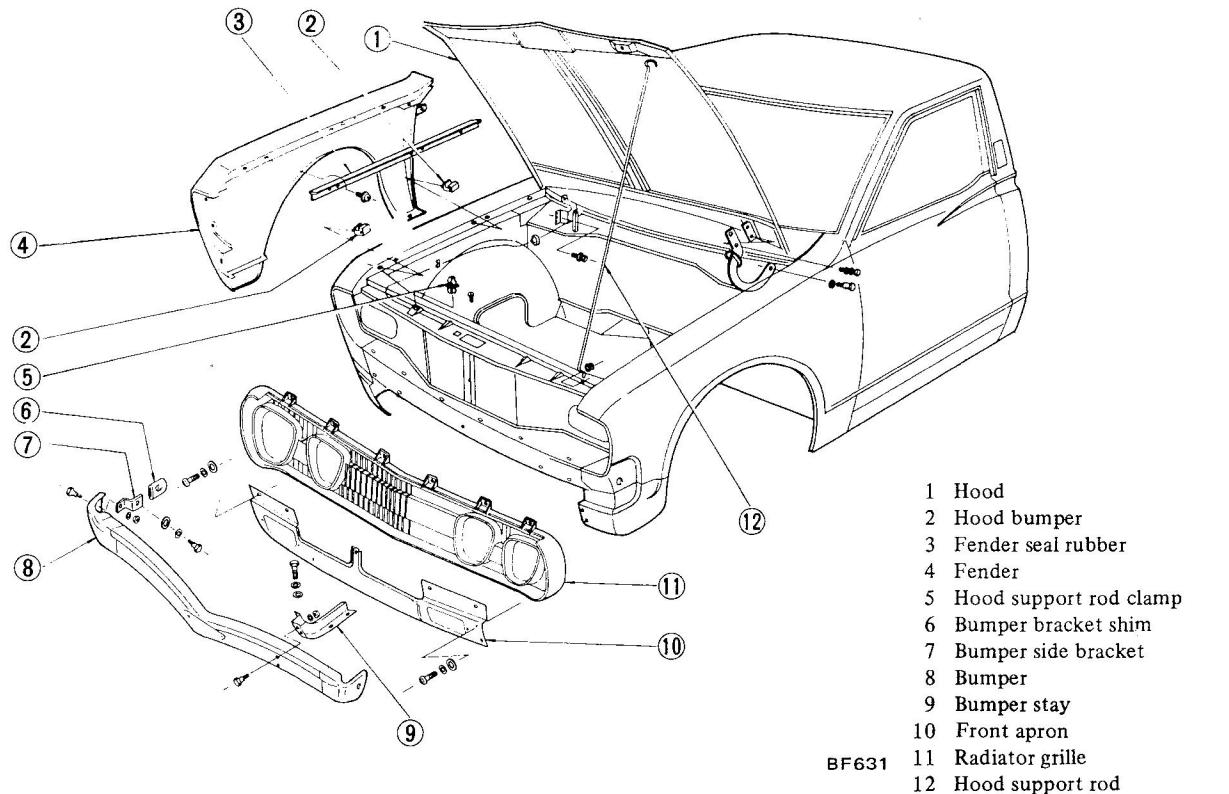

Fig. BF-7 Body front end
7. Remove nine screws attaching front fender to hood ledge. See Figure BF-7.